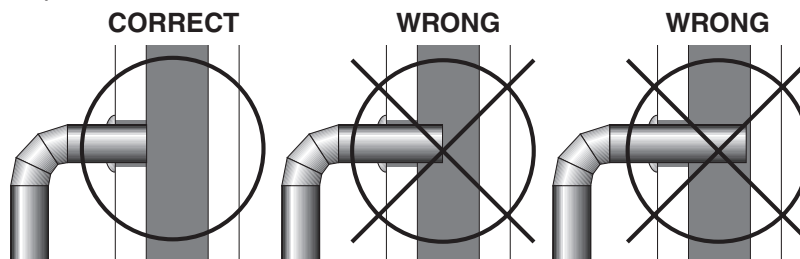

Fig. 10 – Stovepipe/Flue Connections
4. The pipe cannot extend into the chimney flue (fig. 10).
6. It is recommended that no more than two (2) 90 degree bends be used in the stovepipe installation. The use of more than two 90 degree bends may decrease the amount of draw and possibly cause smoke spillage. Where possible, use only corrugated (nonadjustable) elbows. These provide a better seal.
7. The connector pipe must not pass through an attic or roof space, trusses, closet, or any concealed space, or floor, ceiling, wall or combustible construction. (See Chimney Connector Systems & Clearances, page 19). A UL 103 HT (US)/ULC-S629 (CDN) listed chimney must be used from the first penetration of ceiling or wall to the chimney cap. Where passage through a wall or partition of combustible construction is desired, the installation shall conform to NFPA 211 (US) or CAN/CSA-B365 (Canada)
2. Install a metal or fire clay (5/8"/16 mm minimum thickness) thimble. Make sure the thimble is flush with the inner surface of the chimney liner and does not protrude into the flue (see figure 10 on page 9).
4. Install the stovepipe into the thimble as far as possible without extending past the flue lining (see figures 10 & 11 on pages 9 & 10).